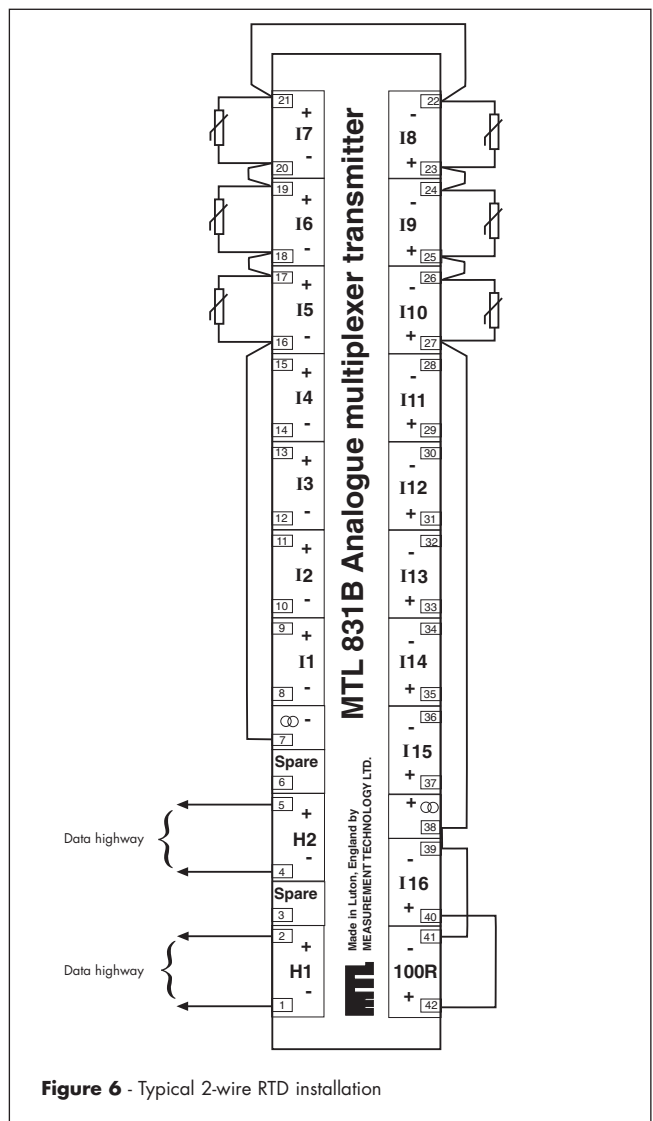

Figure 6 - Typical 2-wire RTD installation
4.1.1 2-wire RTDs (see Figure 6)